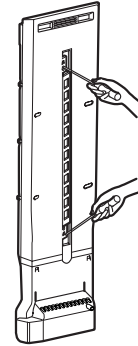

Figure 6
1. Remove the upper and lower Caps by using a flat screwdriver, and remove 2 screws. (Figure 6)